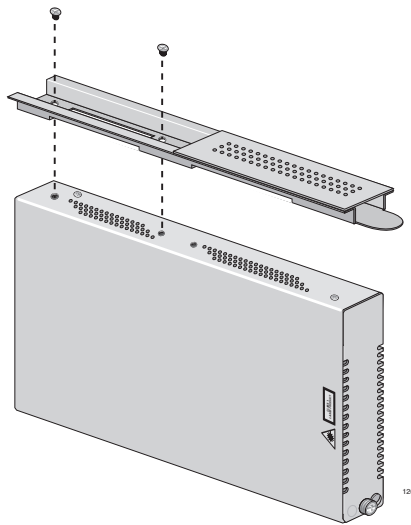

Figure 13. Installing the AT-CVMCR Adapter on the AT-CV1000 Chassis
3. Turn the AT-CVMCR adapter over, align it with the base of the chassis, and attach it to the chassis with two screws (provided), as shown in Figure 13.